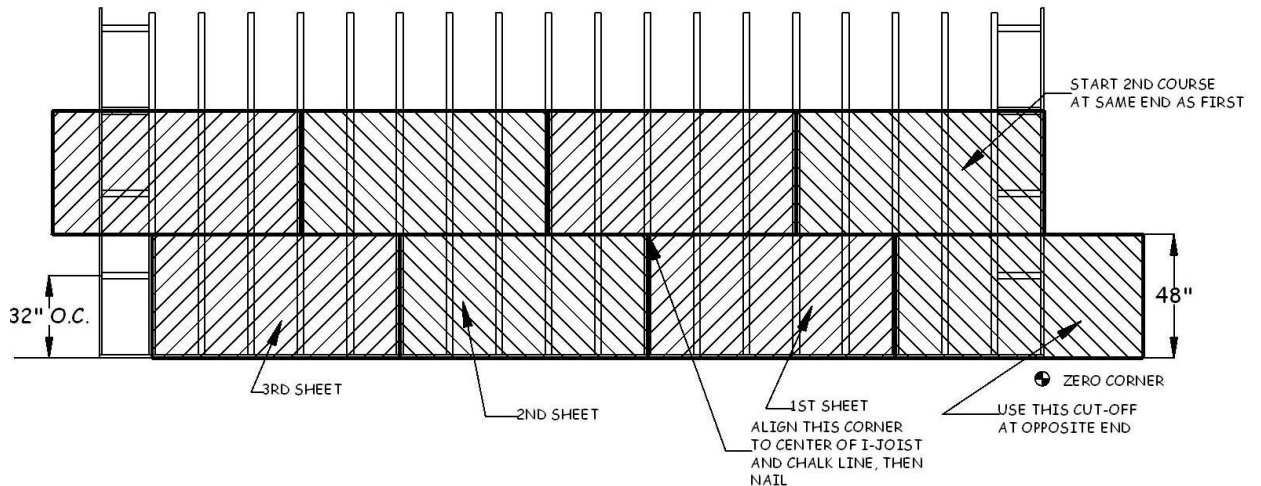

Figure 2-3. Floor Decking Layout.
6. Complete the first row of sheathing and, if desired, snap a chalk line for adhesive installation of the next row. Make sure to stagger the joints of the sheathing, preferably by two I-joists (see Figure 2-3).